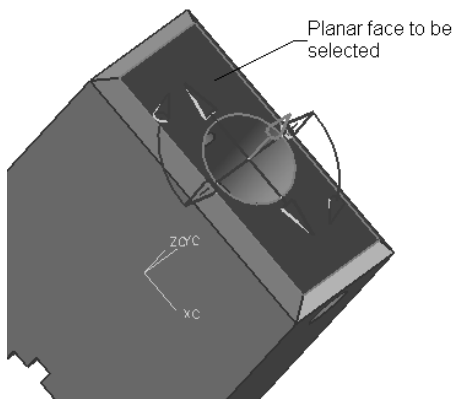
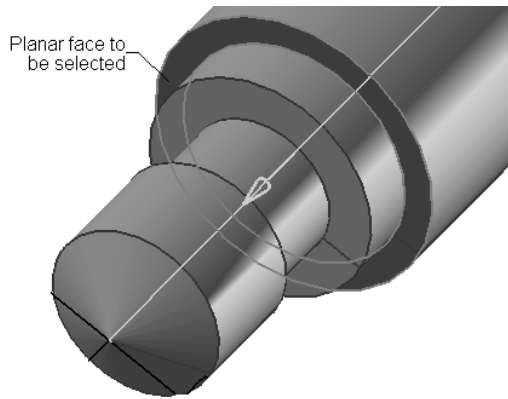

**Figure 8-48** Cylindrical face of the Moveable Jaw to be selected
**Figure 8-49** Cylindrical face of the Screw to be selected
- Insert the Movable Jaw in the assembly window and apply the required assembly constraints, refer to Figures 8-48 through 8-54.
5. Choose the **Center** button from the **Mating Type** area and then select the cylindrical face from the Moveable Jaw as the first object, as shown in Figure 8-48. Next, select the bottom cylindrical face from the Screw as the second object, as shown in Figure 8-49.